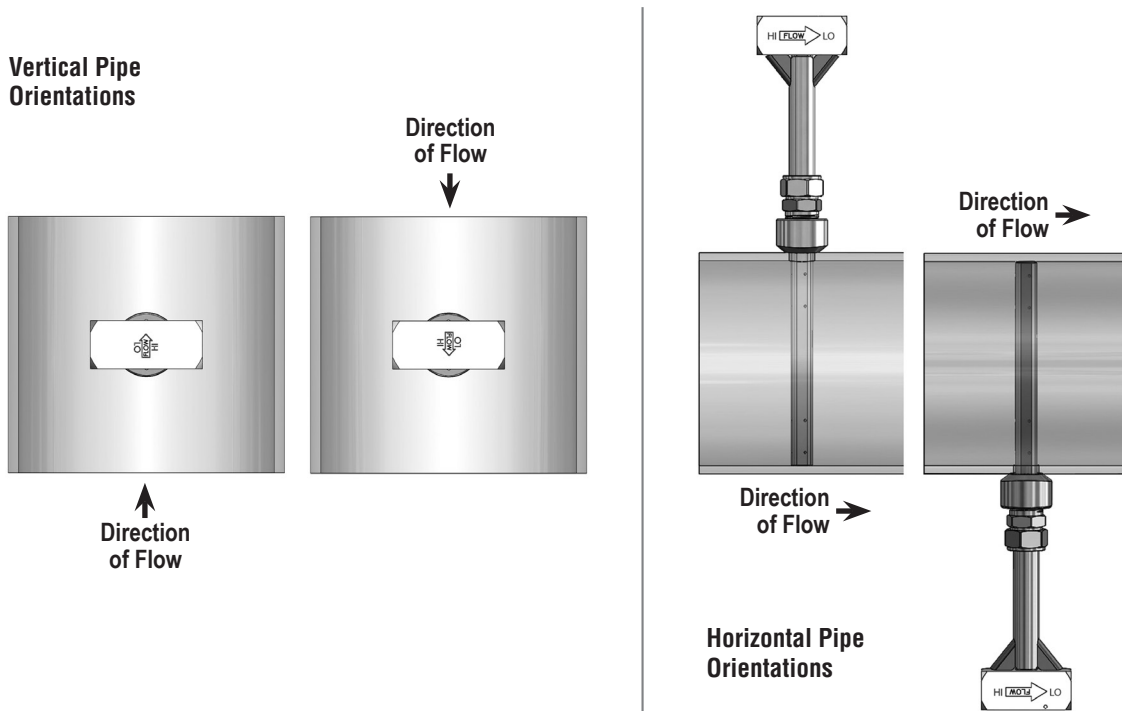

Figure 7. Orientation of Flow Arrow
- Align the head of the sensor so that the arrow labeled "FLOW" on the head is in the direction of the flow in the pipe to within 3° (Figure 7). Maintain the head in this position for the remainder of the installation.